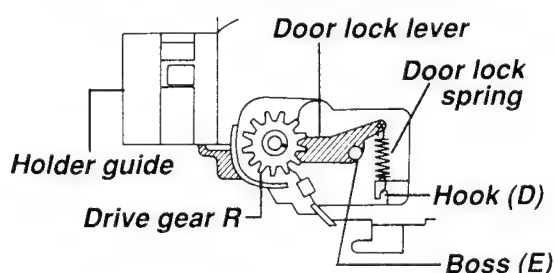

Fig. 4-1-15 View (C)
- Confirm that Boss (E) of the Fig 4-1-15 view (C) goes into groove (B).
2. Push two claws (A)' of the front loading assembly in the direction of the arrow and remove the holder guide upward.
3. Remove the arm gear R. (Refer to item “(3) Arm gear R replacement”.)
4. Remove the door lock spring from the hook (D) of the front loading assembly. (Refer to Fig. 4-1-15.)